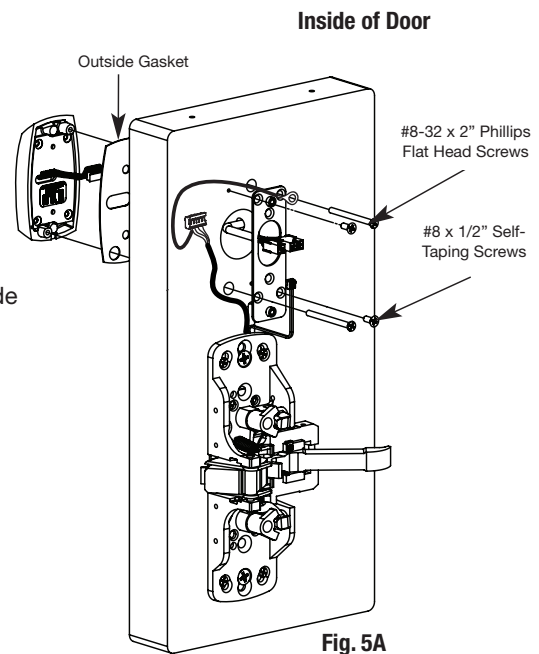

Fig. 5A
1. Connect pin 5 green/yellow ground wire ring terminal to top right screw (Fig. 5A and 5B).